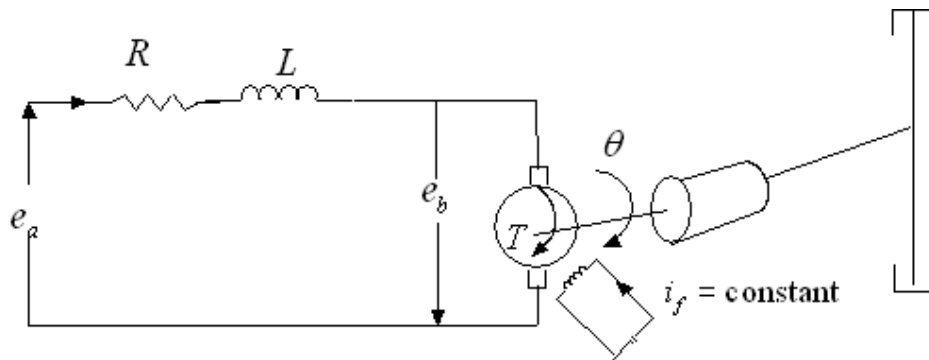

Fig. E3
D.C. Servomotor A DC servomotor is often employed in a control system where an appreciable amount of shaft power is required. These servomotors have separately excited fields. They are either armature controlled with fixed field or field controlled with fixed armature current. For example, the DC servomotor [Fig E3] used in instruments employs a fixed permanent magnet field, and the control signal is applied to armature terminals.